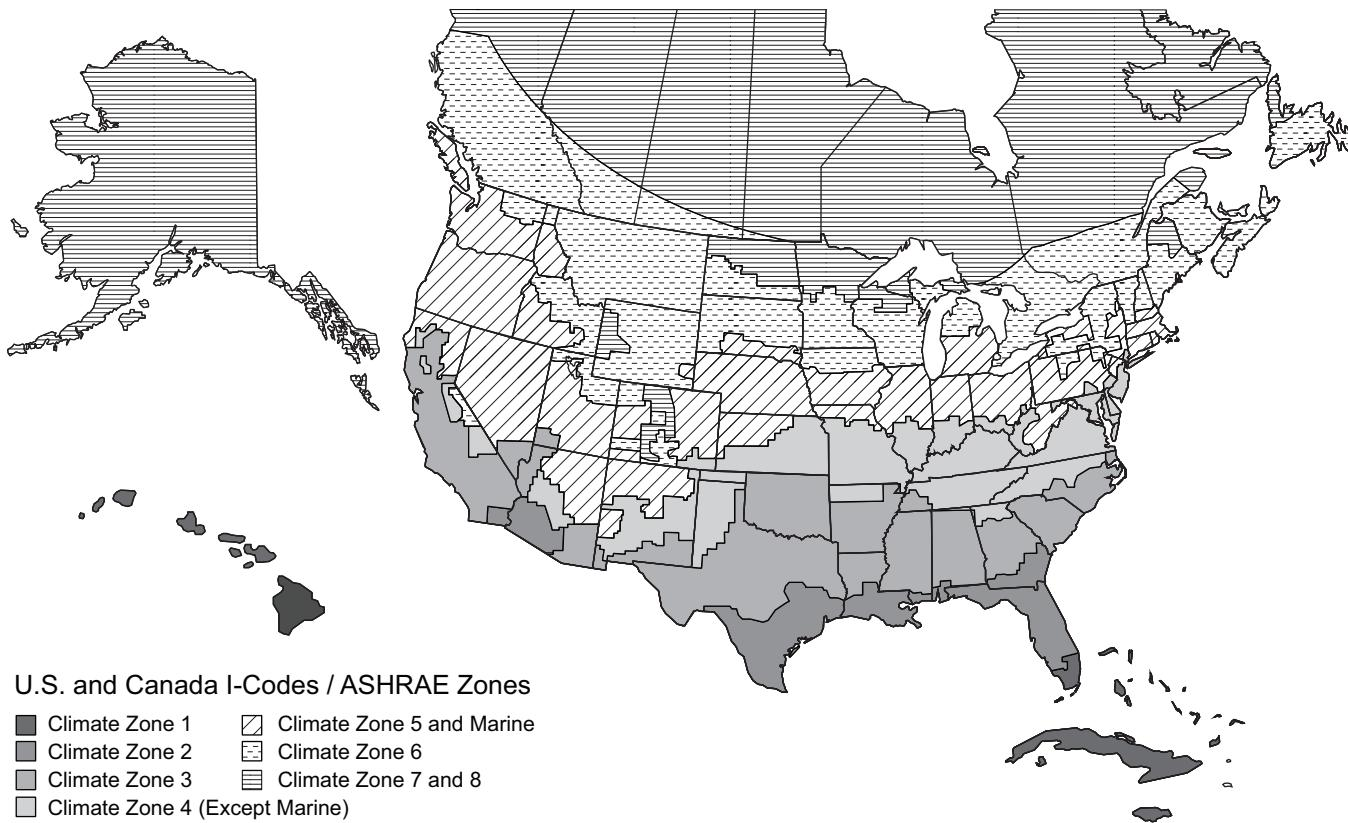

Fig. 87 — U.S. and Canada Climate Zones
- Refer to Fig. 87 for map of U.S. and Canada climate zones.